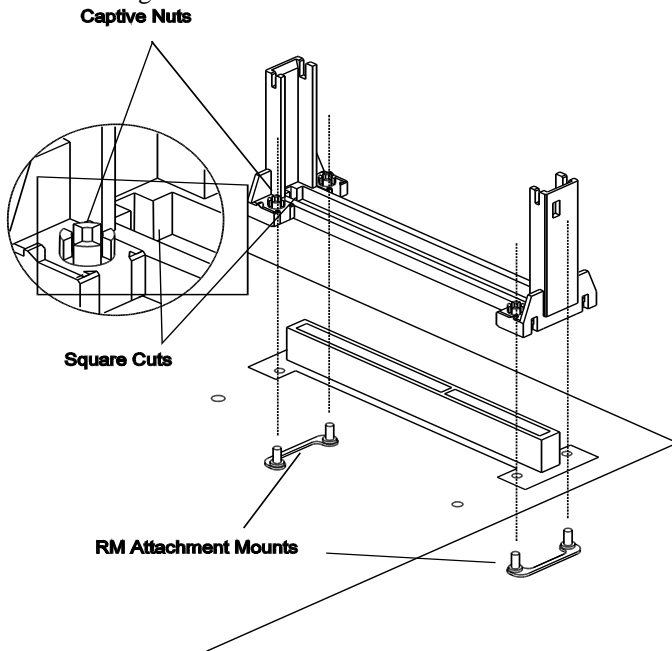

Figure 2-5: Mounting the RM onto Slot 1.
2. Mount the RM onto Slot 1. Make sure that the square cut mark of the RM has the same orientation as Pin 1 of Slot 1. See Figure 2-5.
3. Insert the four RMAM pegs through the motherboard and the RM. Secure the RM to the RMAM assemblies by screwing the four captive nuts onto the four RMAM pegs. (see Figure 2-5.)